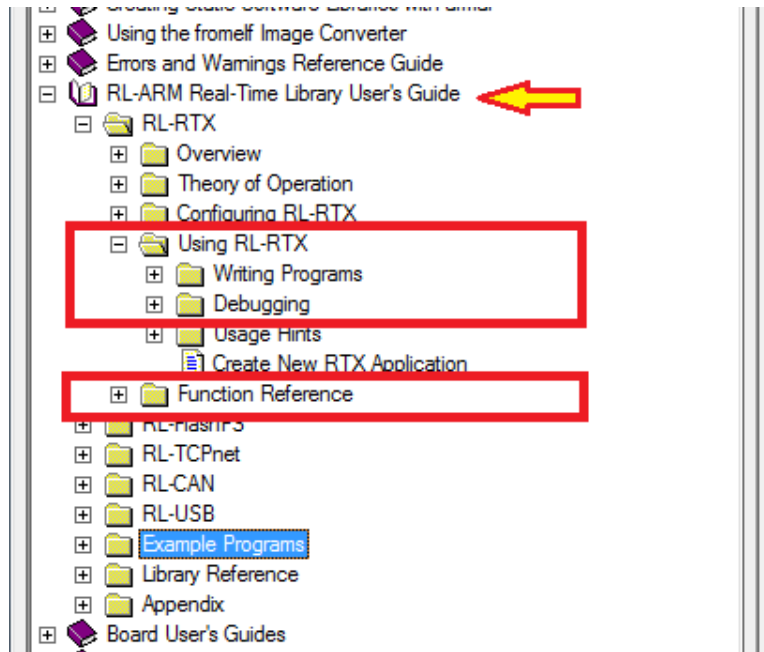

Figure 1.12: Keil IDE: RL-RTX Manual
3. Start a PuTTY terminal and make sure you have the correct configuration as shown in Figure 1.12\(a\) and Figure 1.12\(b\).
The manual of the RL-RTX is accessible through the Keil MDK-ARM Help (see Figure 1.12). The highlighted sections are highly recommended to read through.